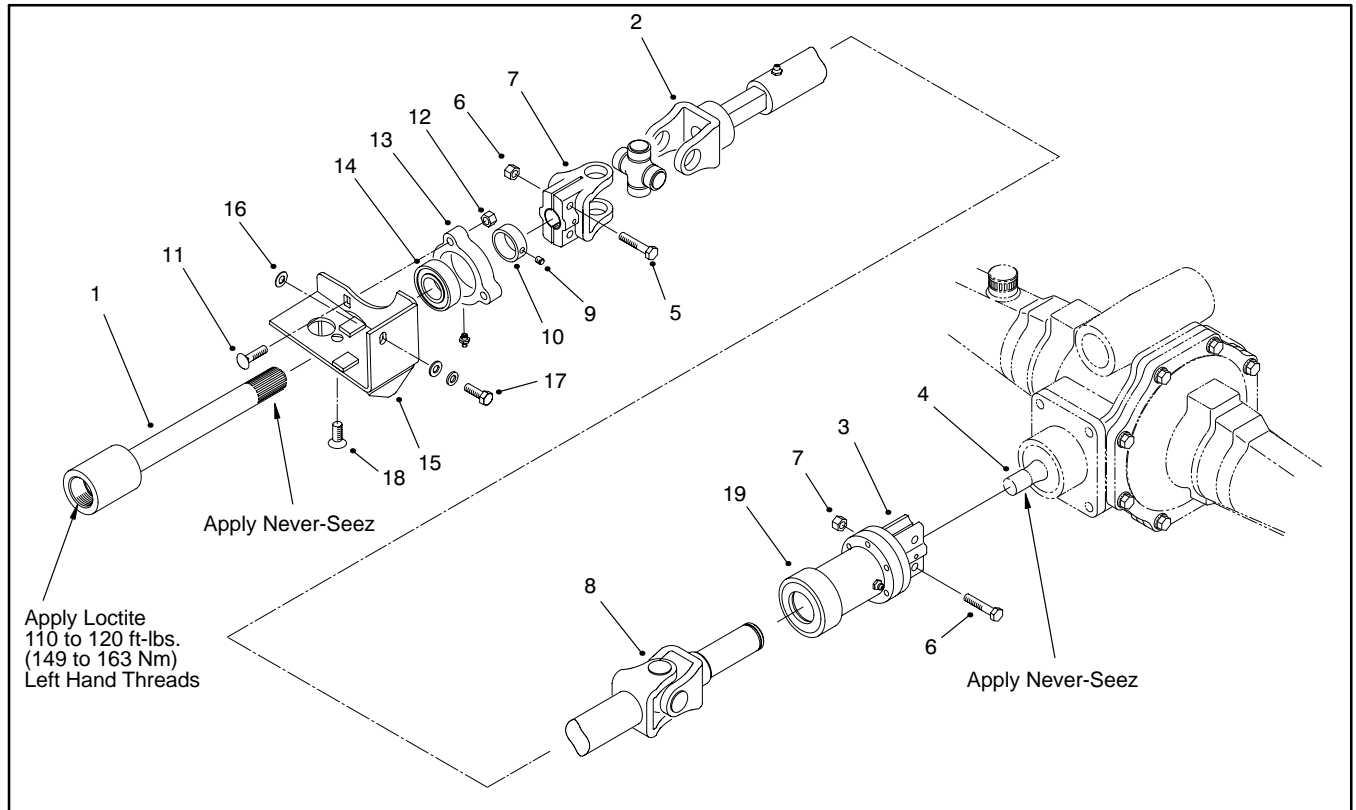

Figure 7
2. If front axle or traction shaft will be removed for repairs, loosen traction shaft before removing the drive shaft. Use an open end wrench on the square slip yoke shaft and turn the shaft in a clockwise (left hand threads) direction (Fig. 7).
5. Loosen capscrews and locknuts securing end yoke to traction shaft, and slide drive shaft assembly off traction shaft (Fig. 7).
- A. Loosen the set screws in the bearing locking collar. Use a hammer and punch to loosen the collar by rotating it in a counterclockwise direction (Fig. 7).
- B. Remove the carriage bolts and locknuts securing the bearing support to the bracket. Remove the bearing and bearing support (Fig. 7).
- D. Remove bearing bracket (Fig. 7). Record number of shims used between side of bracket and transmission.
3. Slide clutch end of drive shaft assembly onto shaft. Tighten axle coupling capscrews and locknuts (Fig. 7).
4. Slide end yoke of drive shaft assembly onto traction shaft and tighten end yoke capscrews and locknuts (Fig. 7).
D. Tighten locking collar to traction shaft by carefully rotating it in a clockwise direction with a hammer and punch. Tighten collar set screws (Fig. 7).